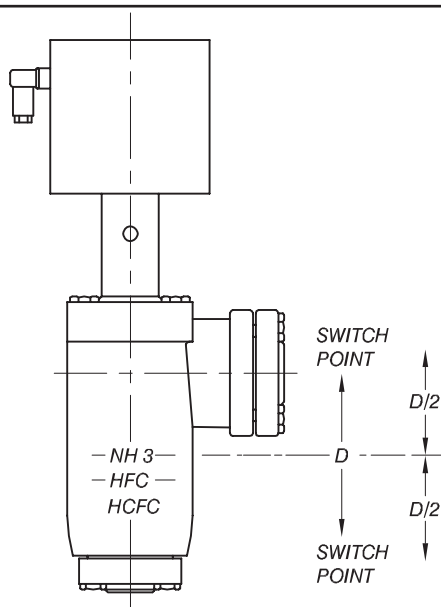

FIG.5
5. The switch point is relative to the actual liquid level marking on the 38SFS body see (fig. 5)
THE SWITCH POINT IS RELATIVE TO THE ACTUAL LIQUID LEVEL MARKING ON THE 38SFS BODY (SEE FIG. 5)